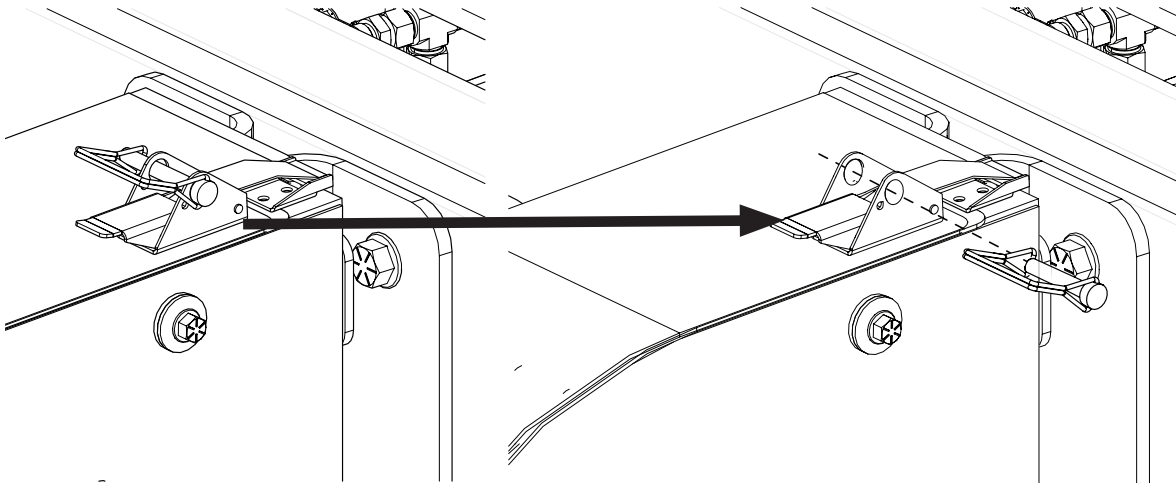

Figure 32: Close the clamps on the covers. Reinstall the cotter pin to latch the clamp.
1. On **Frame Mount** CNG systems, close the clamps on the covers. Reinstall the cotter pin to latch the clamp (Figure 32). Do this on each clamp.